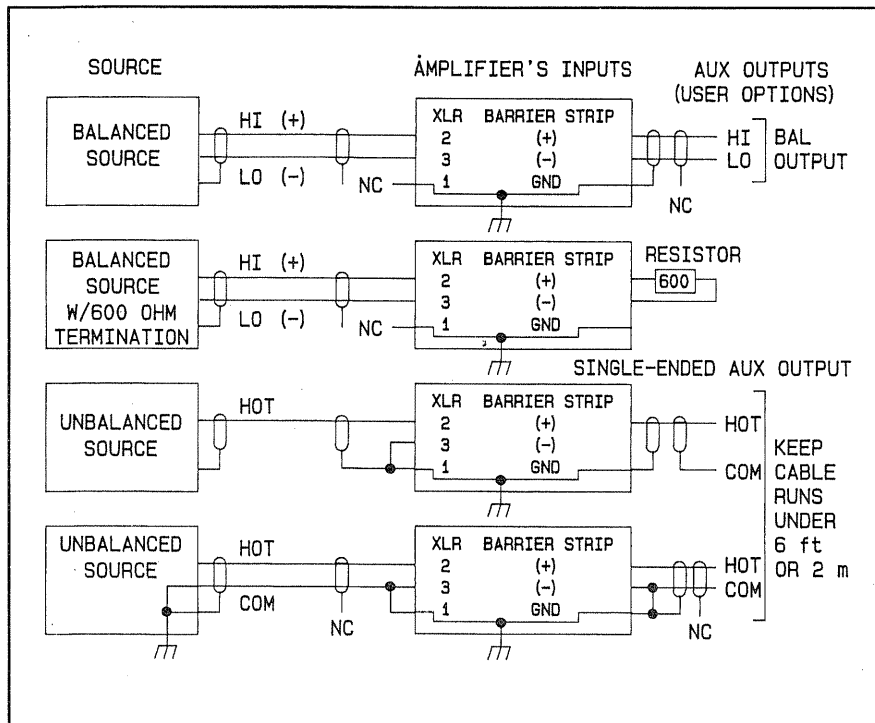

Figure 3 Typical Input Connections
Balanced input connections may be made to either the 1/4" phone (TRS) or the female XLR connectors. For single-ended inputs, strap the low (—) input to ground (pin 3 on XLR or *Ring* on 1/4" phone). Otherwise, the electronically-balanced input stage will see 6 dB less input signal level than with a balanced input. Refer to Figure 3 for typical input connections.
ment. Refer to Figure 3 for possible applications.
2. Verify that the input connections are properly made. Refer to Figure 3.